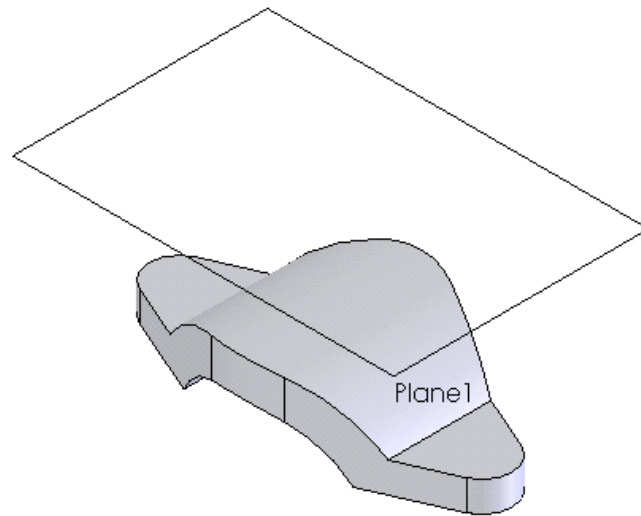

Figure 5-95 Plane created at an offset distance from the top plane
- Create a plane at an offset distance of 150 from the top plane, refer to Figure 5-95.
The newly created plane is shown in Figure 5-95.